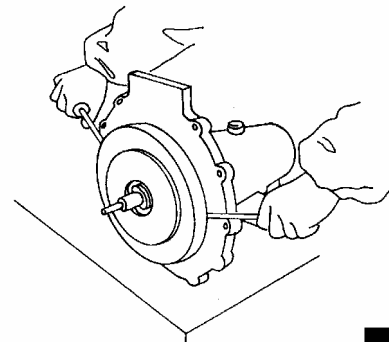

Fig. 6
- 9) Remove the lid from the body (pos. 7) prizing the rear armature (pos. 2) **fig. 6**. Remove the plastic liner from the shaft (pos. 16), and also the mechanic seal and the splash guard (pos. 41).